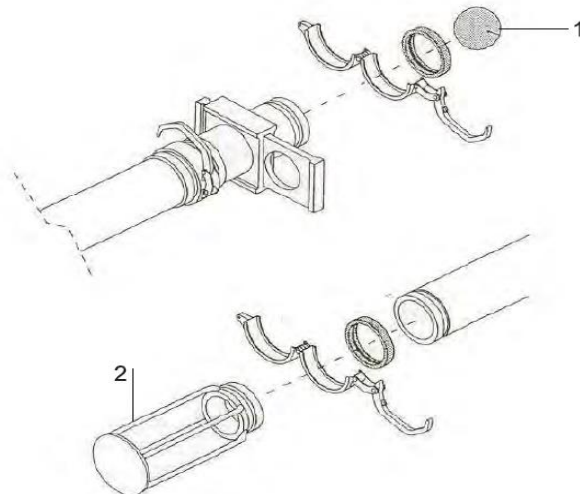
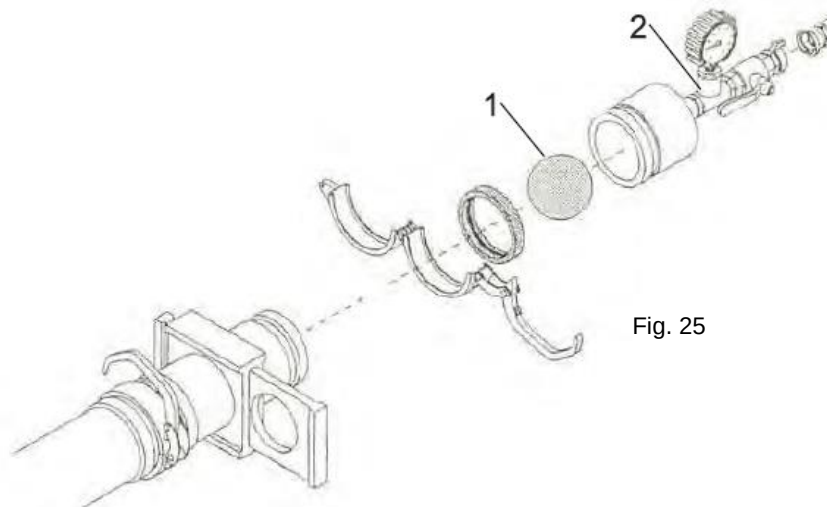

Fig. 23
Fig. 25
Wet a sponge and fit it into the pipe (Fig. 23 Ref. 1). Reconnect the pipe to the machine. Connect the sponge recovery container (Fig. 23 Ref. 2) to the outlet of the hose using the Victaulic fitting with gasket
Connect the sponge recovery container (Fig. 23 Ref. 2) to the outlet of the hose using the Victaulic fitting. Insert the sponge at the hose inlet (wet and of a suitable diameter) (Fig. 25 Ref 1) and connect the provided cleaning device with ball valve (Fig. 25 Ref. 2), making sure it is correctly locked.
⚠ The sponge may be expelled violently from the end of the hose; lay out the terminal hose correctly; If the hose is blocked, the sponge will not be expelled. Switch off the air supply by pulling the lever (Fig. 25 Ref 2).
- Drain out the water tank, pull the evacuation lever (Fig. 25 Ref. 2)
- Start the machine and run the engine at low speed and adjust the pump flow rate to its minimum using the switch (Fig. 25 Ref. 2) on the electrical cabinet.
- Turn the inversion switch (Fig. 25 Ref. 2)